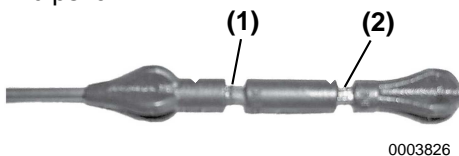

Figure 4
4. Remove dipstick. The oil level should be between upper (**Figure 4, (1)**) and lower lines (**Figure 4, (2)**) on the dipstick.
2. Fill with oil to the upper limit on the dipstick (**Figure 4, (1)**). **NOTICE:** NEVER overfill the engine with engine oil.